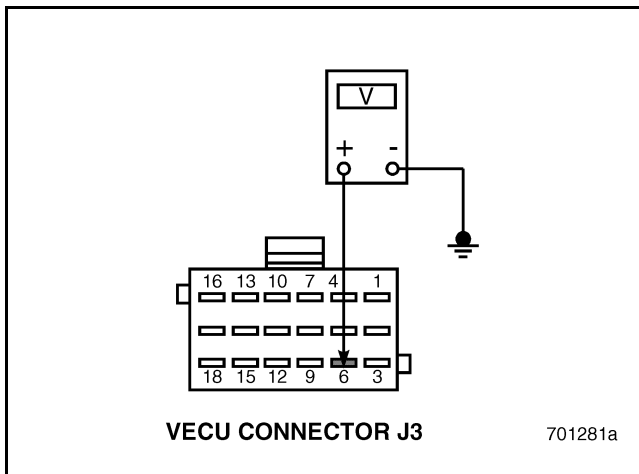

Figure 569
6. Measure the voltage between VECU harness connector J3 pin 6 and a good ground (see Figure 569).